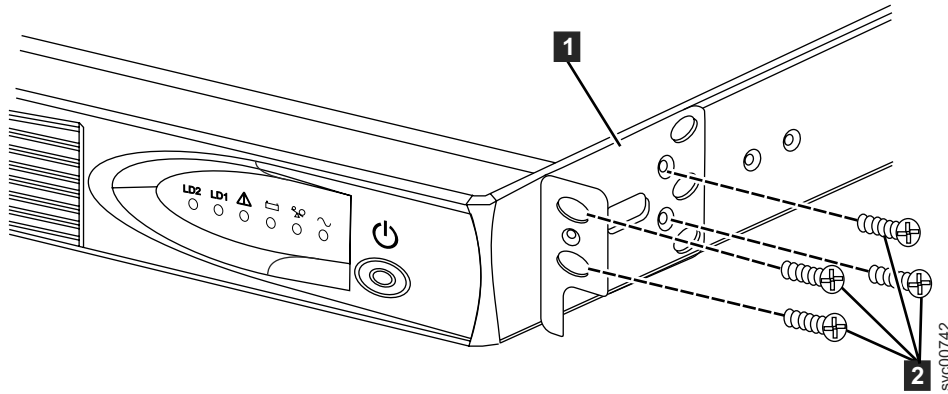

Figure 324. Installing the 2145 UPS-1U mounting brackets for the 2145 UPS-1U
3. Attach the long side of a mounting bracket **1** to each side of the 2145 UPS-1U using four M3 × 6 screws **2** for each bracket, as shown in Figure 324 on page 333.